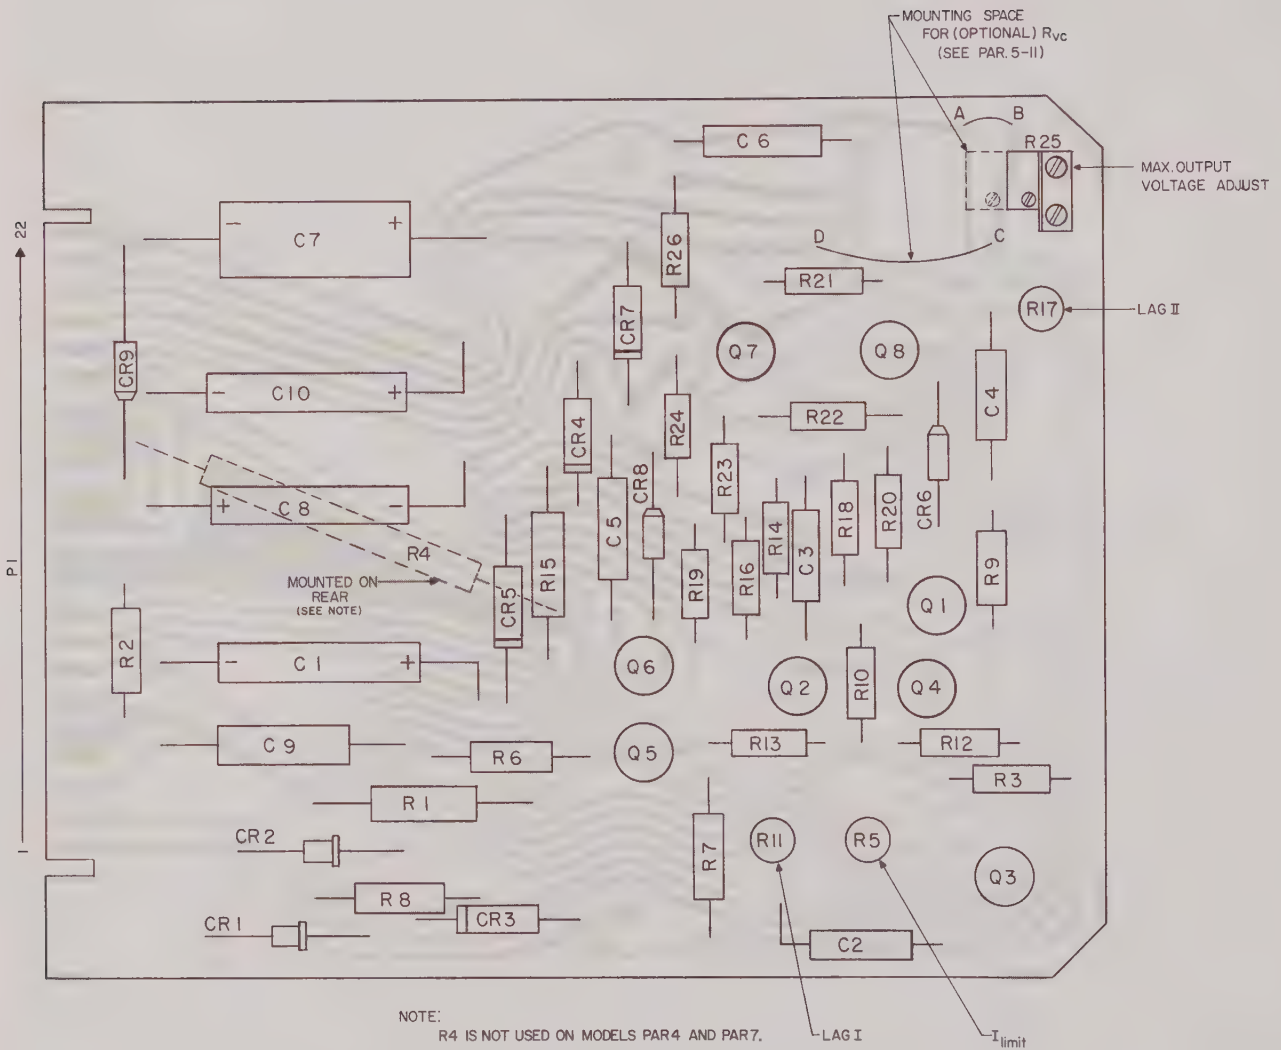

FIG. 5-4 COMPONENT LOCATION, PCB-1, ASSEMBLY A1
5-6 Current Limiting Control (I_{limit}). A single turn potentiometer (R5), located on the printed circuit board and facing the barrier strip (FIG. 5-4) serves as an adjustment for limiting the output current through the range of approximately 5% to 100% of the supplies' maximum output current.* R5 is factory adjusted to limit at approximately 105% of the maximum output current.* Normally, readjustment of the current limit is not required, since at reduced output voltages current limiting takes place automatically. (Refer to FIG. 3-3)
5-9 LAG NETWORK ADJUSTMENTS. The two adjustable lag networks provided in the PAR power supply are factory adjusted for maximum stability of the error signal amplifier when working into resistor loads. Re-adjustments are necessary only after component replacement, for operation into remote loads, or loads with large reactive components, where instability (oscillation) is encountered. Adjustment consists of turning R11 and R17 (Lag I and II respectively, refer to FIG. 5-4 for location) until oscillations disappear and maximum stability is re-established.
5-11 If the PAR power supply is used as a fixed voltage source, the voltage control resistance R_{VC} , normally connected in the factory to barrier strip terminals 2A and 2B, may be installed internally on the printed circuit board as shown schematically in FIG. 4-1 and physically in FIG. 5-4. Several configurations of R_{VC} are possible.
- a) R_{VC} may be the fixed resistor delivered with the unit and normally connected to barrier strip terminals (2A) and (2B). It can be placed between points (C) and (D), (see FIG. 5-4) by first removing the wire jumper normally installed between these points, and jumping barrier terminals (2A) and (2B) with a short length of wire.
- b) R_{VC} may be made up entirely as a variable resistor by mounting it as indicated in FIG. 5-4, removing the wire jumper between points (A) and (B), and soldering the centertap and one end of the variable resistor to points (A) and (B). Jump barrier terminals (2A) and (2B) with a short length of wire.
- c) A combination of fixed and variable resistors can be used to serve as voltage control with partial adjustment. The variable resistor is wired between points (A) and (B), and installed as before. The fixed resistor must be mounted between points (C) and (D). The two barrier terminals (2A) and (2B) must be jumped with a short length of wire, as before.